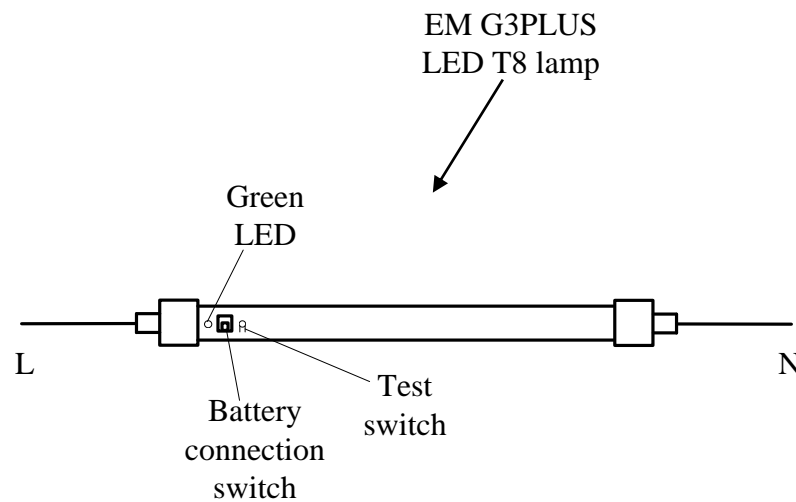

Fig. 1
5. Connect a line voltage (L and N, see Fig. 1) with the wires connected to lampholder terminals on the fixture using an UL approved 18-14 AWG (0.82-2.08 mm²) twist-on wire connector.